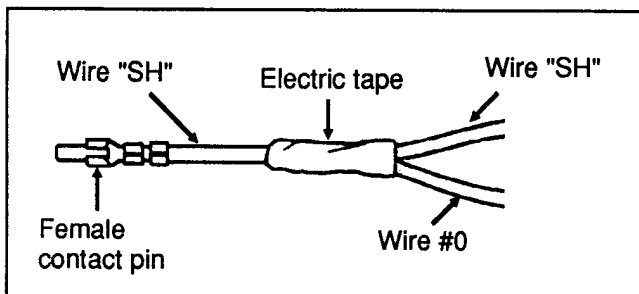

Figure B.1
7. Strip (without cutting it) a length of about 1/2" (13 mm) on black wire "SH", and solder black wire #0 to this wire. See fig. B.1.